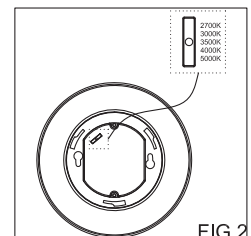

FIG.2
4. Adjust the color to desired one, by sliding the selector switch. (FIG.2)